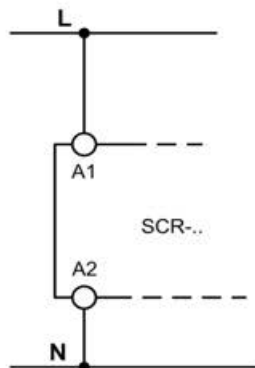

Fig.10 Power Supply.
4. Connect the power supply to terminals A1 and A2 (Fig.10) and only in the de-energised state.